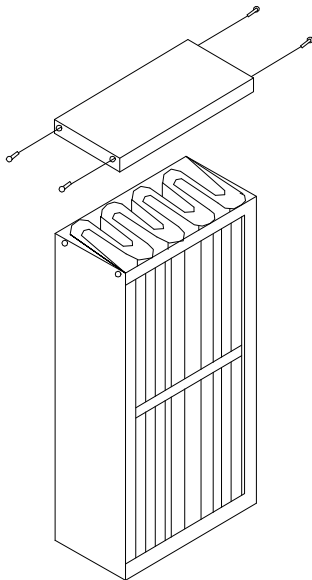

FIG. 1
3. If the unit contains one or two refillable charcoal modules, (RCM), remove each module from the unit by loosening the wing bolts that retain the modules, and pulling the module out. Remove the top cover of RCM to allow access to fill RCM with charcoal provided. (See Fig. 1.) Replace the top cover and re-install the modules into the unit, and tighten wing bolts. (Retain any additional charcoal for future use.)
4. After approximately 6 months use, the refillable charcoal module(s) will need to be refilled with new charcoal (or activated alumina). To refill, remove top cover of RCM-6 (retained by four (4) screws), empty RCM-6 and refill. Shake the RCM-6 to allow for settling and refill to the top. Replace top cover back onto RCM-6. (See **Fig. 1**.)